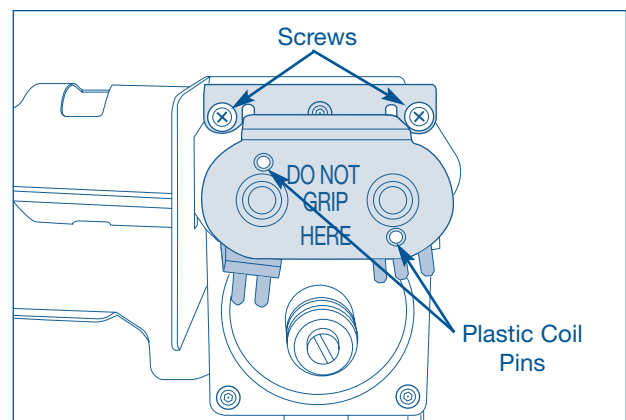

Figure 4-51.
3. Using a #2 Phillips head screwdriver, extract two screws securing the coil bracket to the valve body. Remove bracket from valve body. (See Figure 4-51)